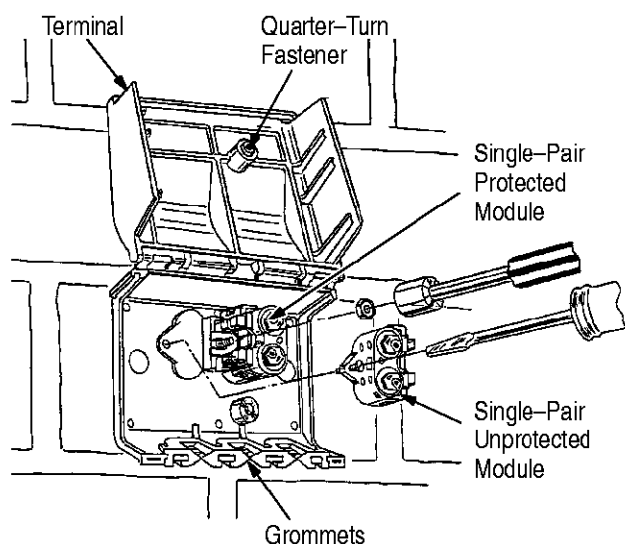

Figure 14
3. Align new module in terminal and secure module with supplied screw or nut. See Figure 14.